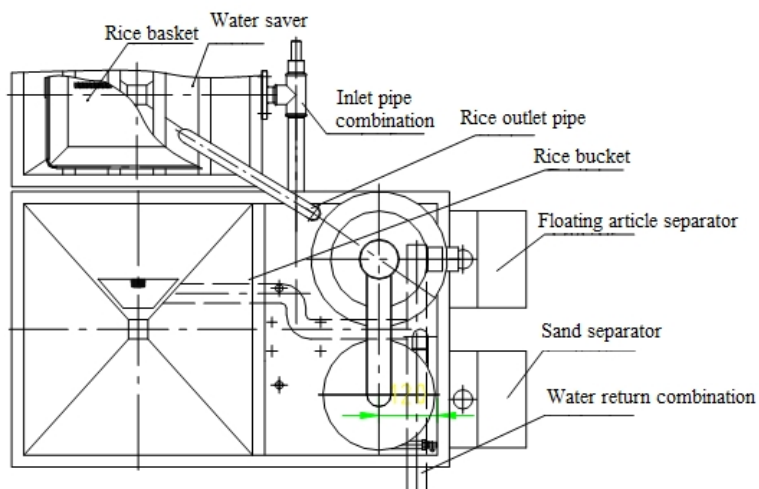

Fig.1 Main structure diagram
2.1.1 The machine consists of frame, sand separator, floating article separator, rice bucket, water saver and pipeline (refer to Fig. 1 for the structure)